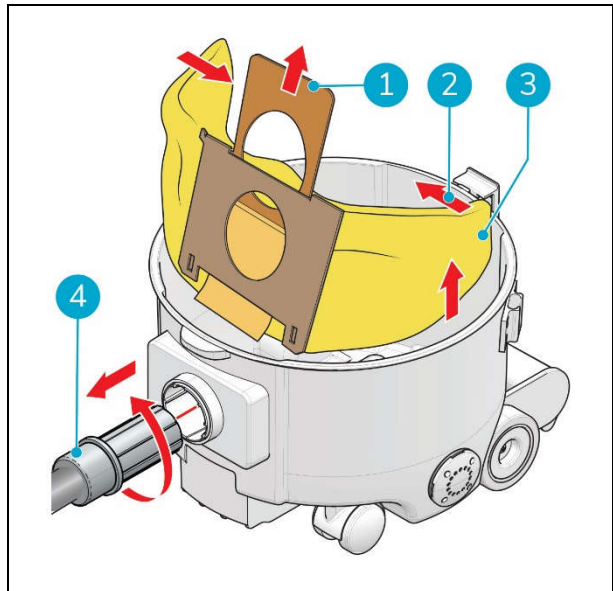

Figure 12
6. Turn the hose (fig 12, pos 4) anti clockwise and remove it from the hose connector.
7. Pull the cardboard tag (fig 12, pos 1) to seal the dust bag.
8. Fold the ends of the dust bag (fig 12, pos 2) towards each other.
9. Remove the old dust bag (fig 12, pos 3).